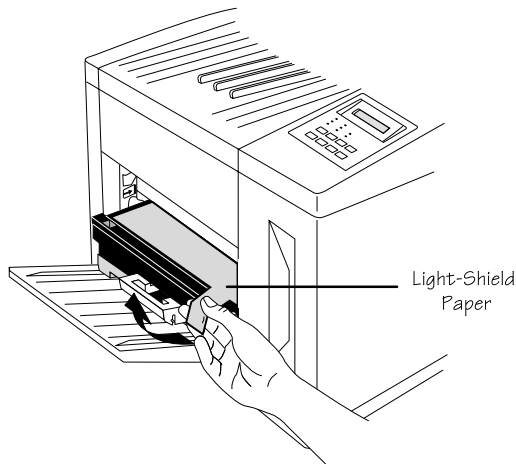

Fig. 2.27 *Remove the Light-Shield Paper*
6. Remove the black light-shield paper from the OPC belt by pulling the tab on the front as shown in figure 2.27 and pulling the paper straight out of the printer.